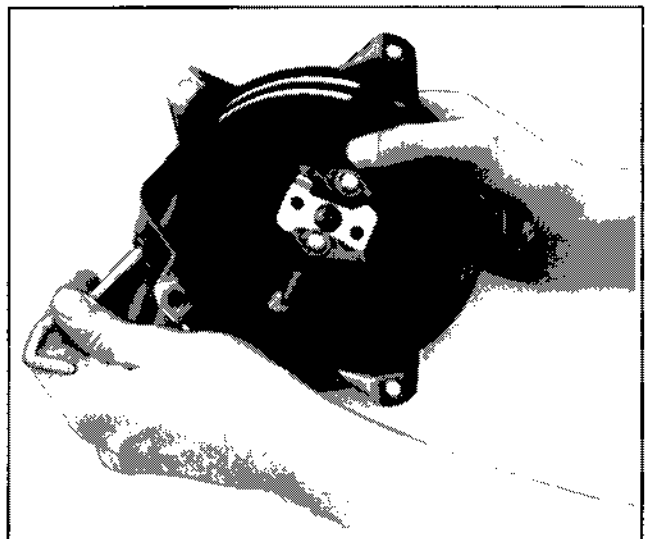

Figure 7-6. Releasing Spring Tension.
4. Hold the pulley firmly with thumb and untie the slip knot. Allow the pulley to rotate slowly as the spring tension is released. Refer to Figure 7-6.
4. Hold the pulley firmly with thumb and untie the slip knot. Allow pulley to rotate slowly as the spring tension is released. Refer to Figure 7-6.